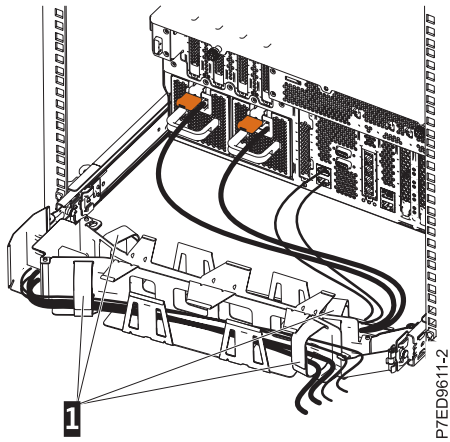

Figure 17. Attaching and routing the power cord
7. Route the power cords and other cables (including the keyboard, monitor, and mouse cables, if required) on the cable-management arm (1), as shown in Figure 17 on page 13. Attach all cables to the rear of the server except for the power cord. Secure the cord and cables with cable ties or hook-and-loop fasteners.